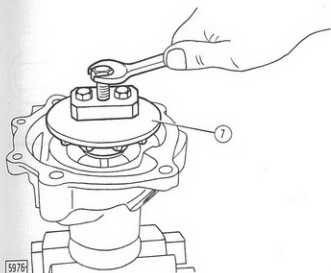

Fig. 91 - Removing the Water Pump Impellor with Extractor
- Lightly tap the end of shaft (2) to break the film of oxide between shaft and impellor and withdraw the latter using extractor No. 291182/1 (see Fig. 91).